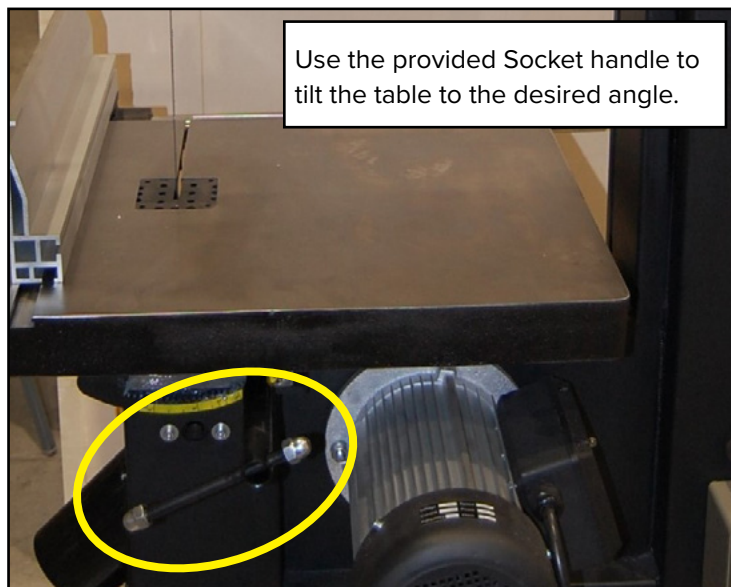

Figure 30: Tilting the Table
**Table Tilt Scale:** The trunnion features a scale with a pointer that allows operators to set and monitor the desired table tilt angle accurately see figure 30
2. **Loosen Table Tilt Lock Lever:** Locate the table tilt lock lever, as indicated in Figure 30 (if provided). Loosen this lever to allow for table movement.
**Retighten Lock Lever:** Once the table is set to the desired angle, securely retighten the table tilt lock lever. This step is crucial to lock the table in place and prevent any unintended movement during operation. Figure 30: Tilting the Table.